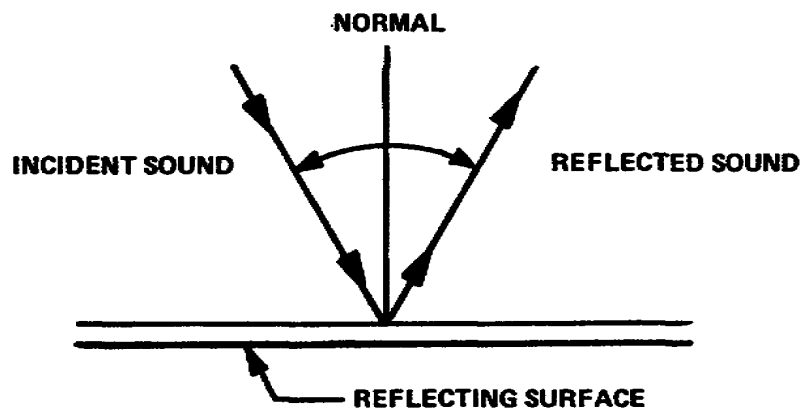

Figure 1-12. Reflection of sound wave
a. Reflection. If the sound wave strikes a hard surface at an angle, a large part will bounce off and be reflected at an angle which is exactly equal to the angle of incidence (fig 1-12). Reflected sound increases the intensity, causing a type distortion by adding an echo (a reflected sound) or reverberation (a multiple reflection of sound). Large areas with hard surfaces, such as auditoriums, produce a lot of reverberation and echo. The shape and size of the area also determines the reflection of sound. Large